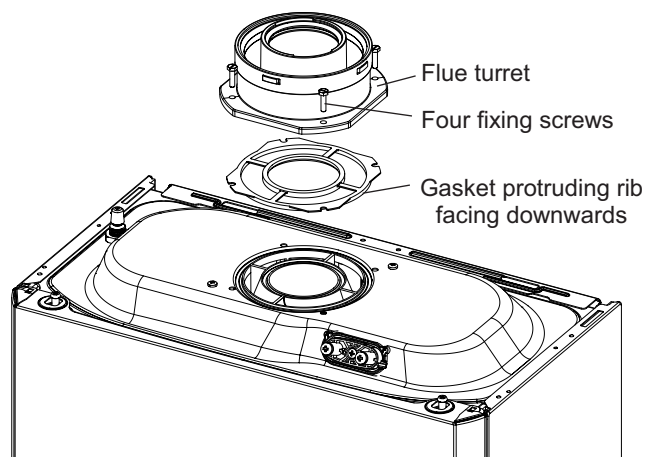

Fig. 5.5
### 5.6 FIT THE FLUE TURRET - Figs. 5.5 and 5.6
2. Place the flat concentric gasket onto the boiler, ensuring the protruding 60mm rib is facing downwards and located correctly. See Figs. 5.5 and 5.6.
## 5.7 FIT THE FLUE - Figs. 5.5 and 5.6